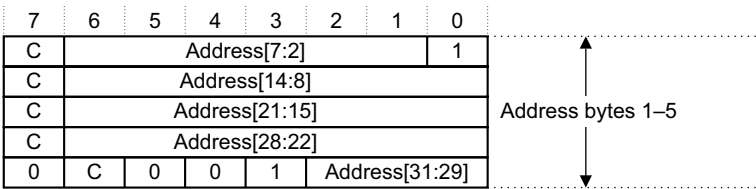
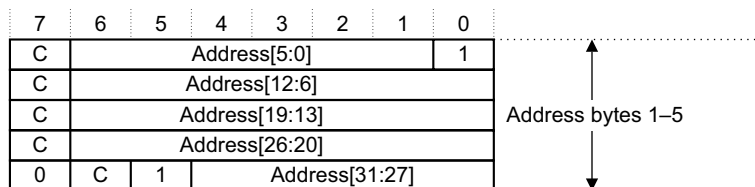

Figure 7-3 Original encoding of ARM state branch address bytes
Figure 7-5 Original encoding of Jazelle state branch address bytes
- 5 Address Bytes, plus one or more Exception Information Bytes. See Figure 7-3 on page 7-310 to Figure 7-5.